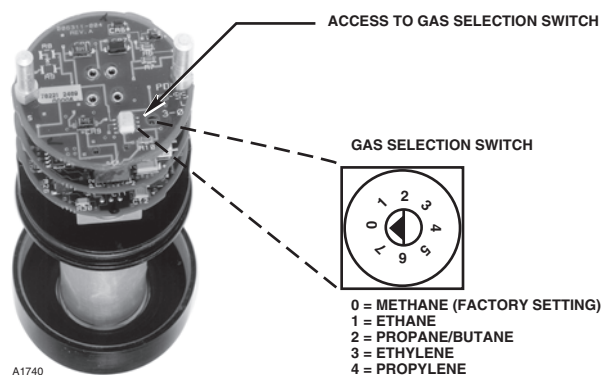

Figure 14—Gas Selection Switch Location at the Bottom of the Electronics Assembly
- Using a small screwdriver, rotate the gas selection switch from position 0 (methane) to the desired position. Refer to Figure 14. Ensure that the tip of the arrow on the switch lines up with the position selected.